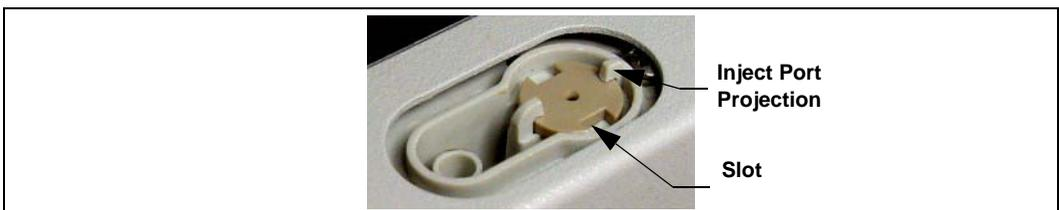

Figure 5-16. Inject Port
7. Rotate the bottom fitting until the slots are perpendicular to the projections on the inject port (see Figure 5-16).